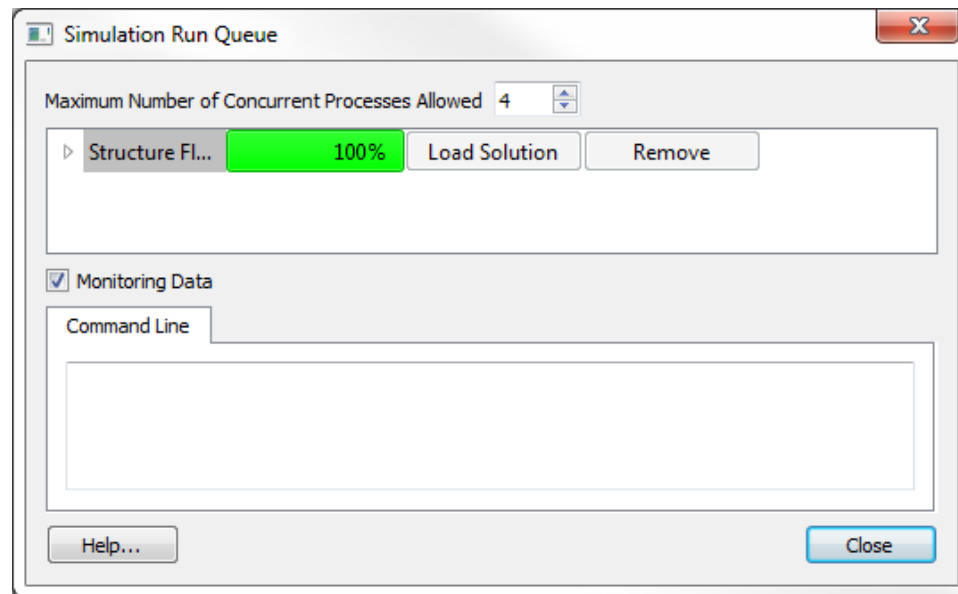

Figure 4 SMS Model Wrapper
5. Click **Load Solution**, as shown in Figure 4. The solution datasets will now be listed in the Project Explorer under “ Gila_Mesh”.